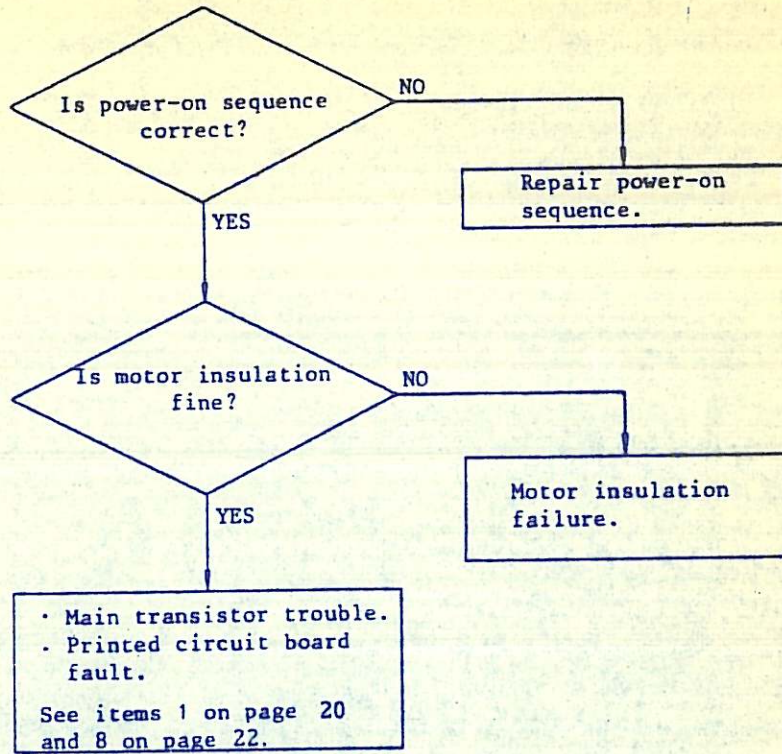

Fig. 11
3. When turning on main power, 2LED goes on and the main power is cut off. See Fig. 11.